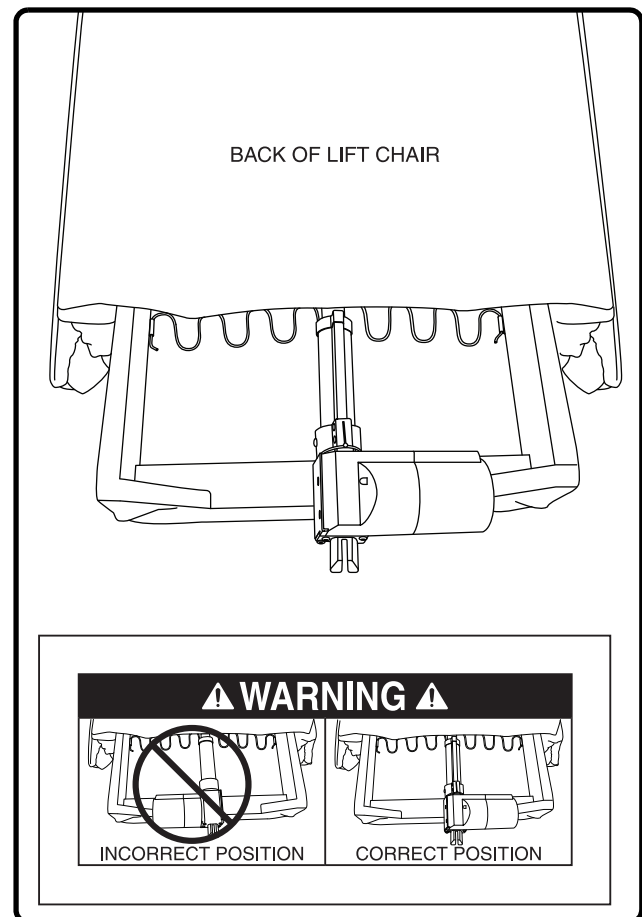

Figure 4.2 Correct Actuator Positioning
**WARNING!** Make sure that the actuator is turned towards the right (if facing the back of the lift chair) to avoid possible damage to any lift chair components (**Fig. 4.2**).